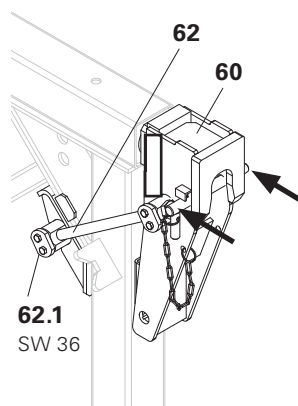

Fig. F2.04
2. Release both bolts (62.1) on the Brace Frame Adapter (62), SW 36.
4. Place Wall Scaffold Hinge SB (60) on the Brace Frame, insert bolts through the right and left holes as well as through the holes of the Brace Frame Adapter.
5. Firmly secure Wall Scaffold Hinge with bolts on the Brace Frame. (Fig. F2.04)